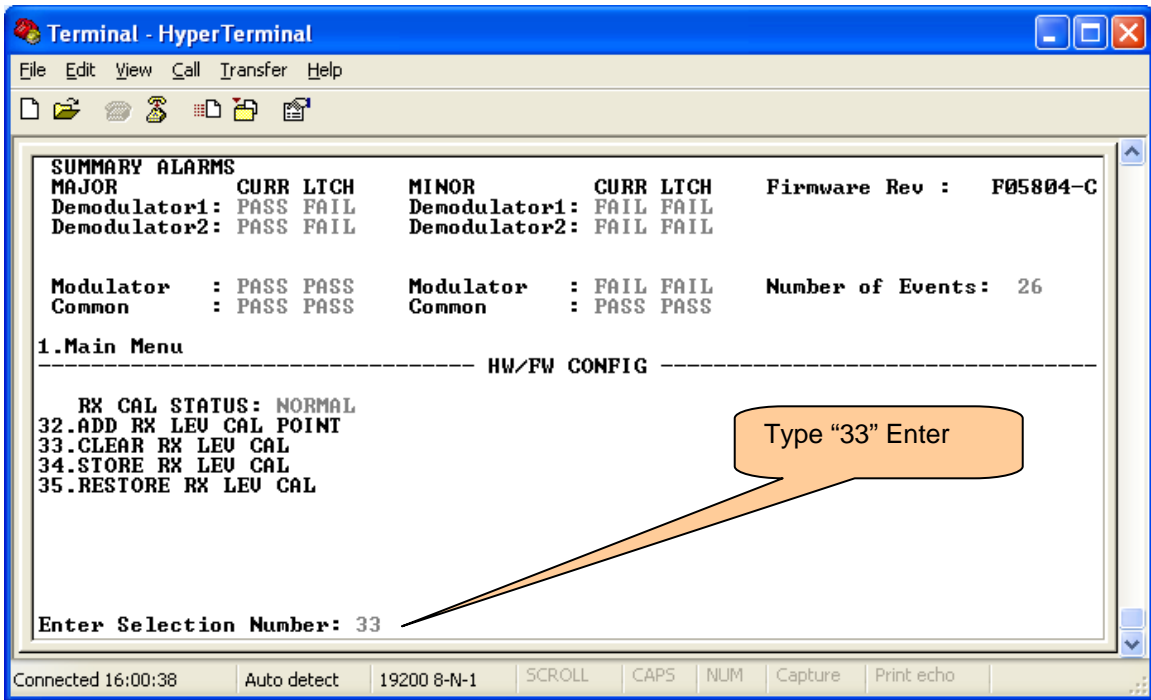

Figure 30 – Clear Rx Level Calibration
2. Clear the RX level calibration table by entering "33" <Enter>, see Figure 30.